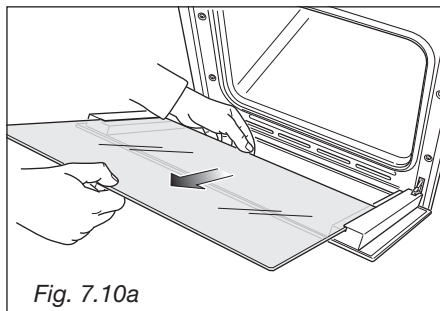

Fig. 7.10a
- Gently pull out the inner pane of glass (Fig. 7.10a)